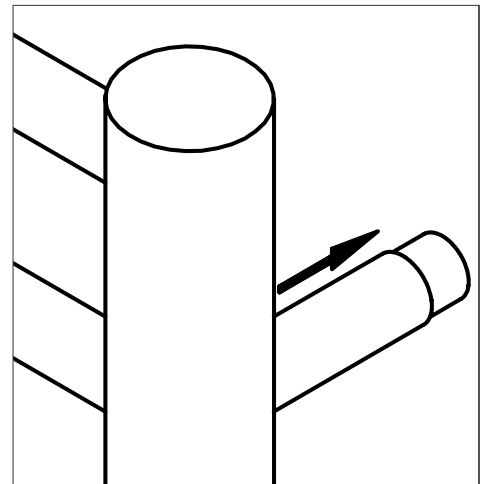

Fig 5.0
- Press the towel rail onto the mounting inserts gradually, checking that each leg is lined up with the mounting inserts before applying force. see Fig 5.0